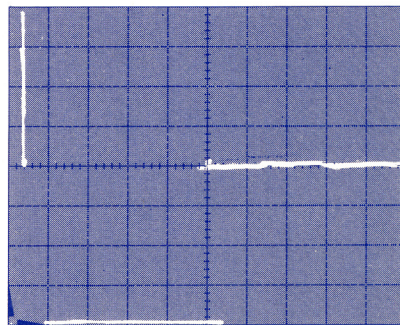

Figure 2-3. Returning spot to center of screen.
- f) Rotate HORIZ position control ccw slowly until spot appears at center vertical graticule line. See Figure 2-3. **26**